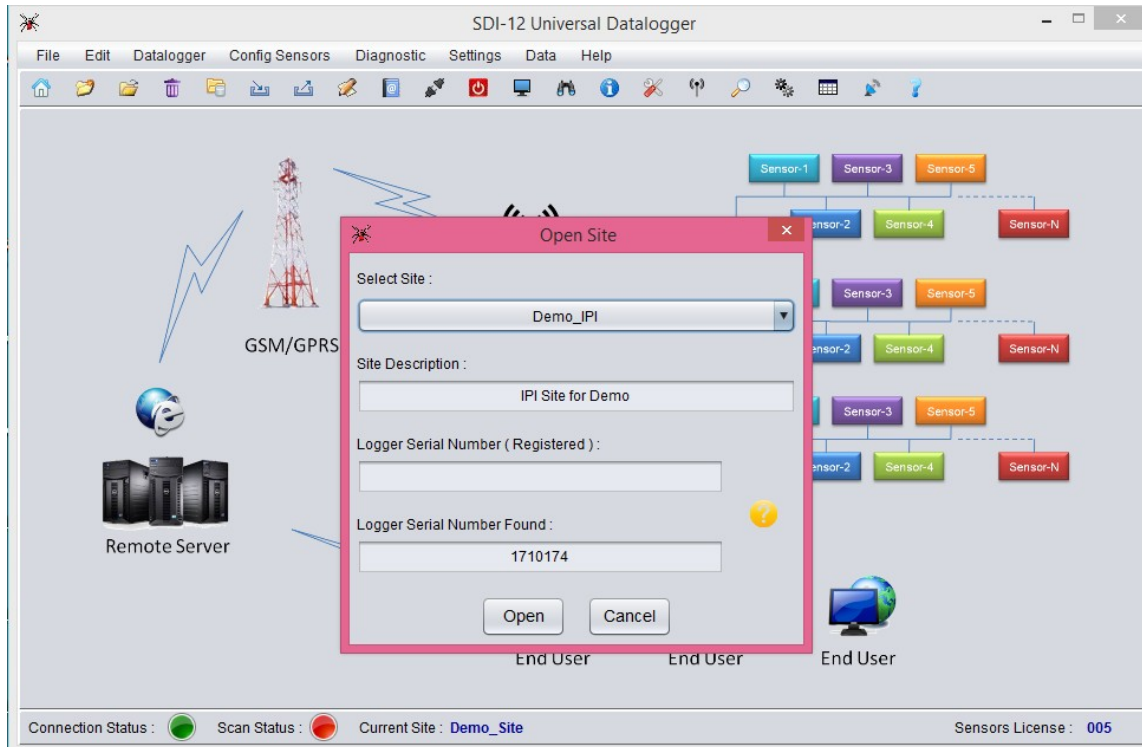
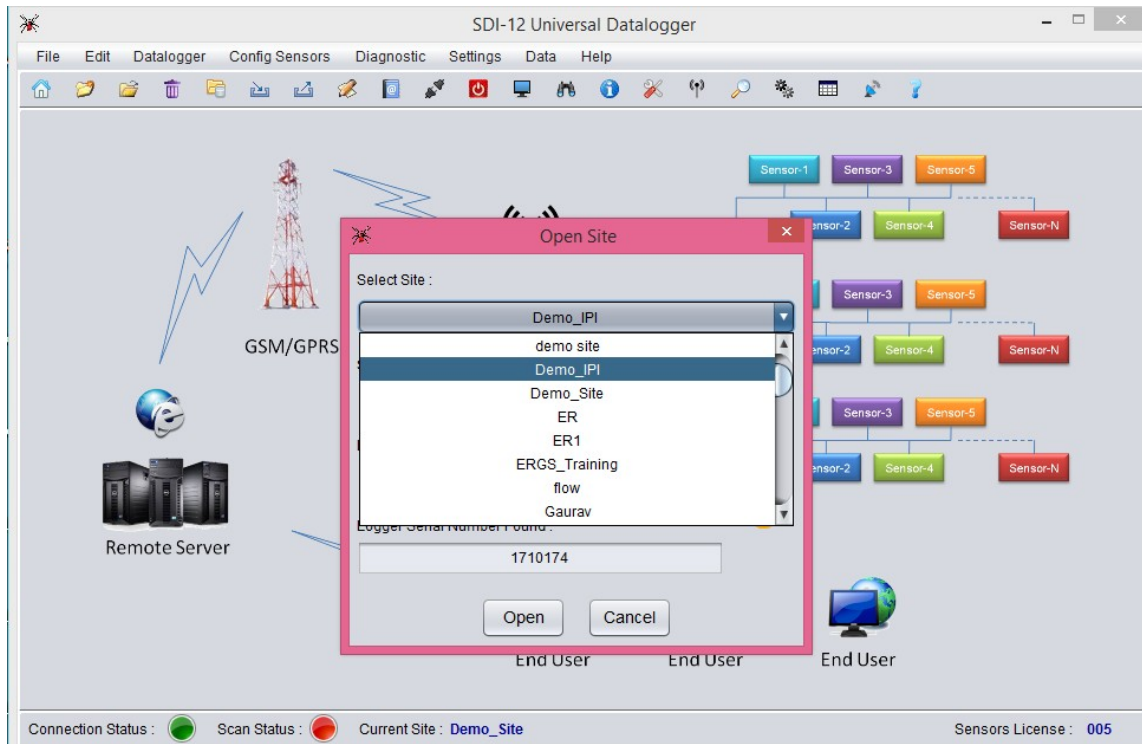

Figure 22 Open site window of EDSL-30UNI Configuration Manger Software
Figure 23 Open site window with dropdown list of sites of EDSL-30UNI Configuration Manger Software
- 6 Then the Open Site window will appear automatically. Choose the created site file from “Select Site” dropdown menu and click “Open” (figure 22 and figure 23)